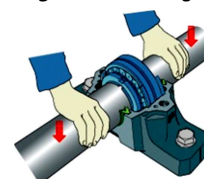

Figure 9 Shaft, bearing in bracket.
- PLACE THE SHAFT WITH THE BEARING IN BRACKET BASE, FIGURE 9.